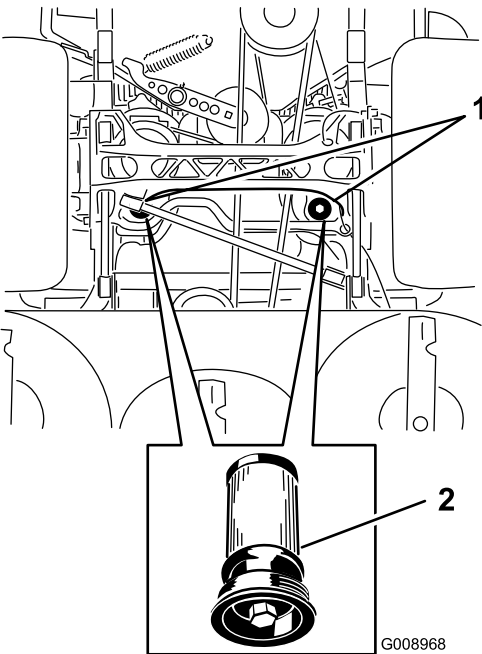

Figure 92
5. Place a drain pan under the filter, remove the old filter, and wipe the surface clean (Figure 92).
6. Apply a thin coat of hydraulic fluid to the rubber gasket on the replacement filter (Figure 92).